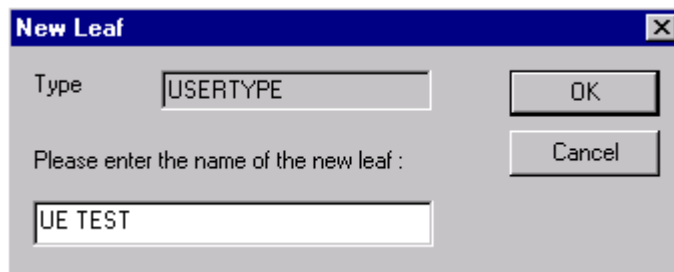

Figure 137. Specifying the User Type Name
- b. Enter **UE TEST**, then click **OK**, Figure 137.